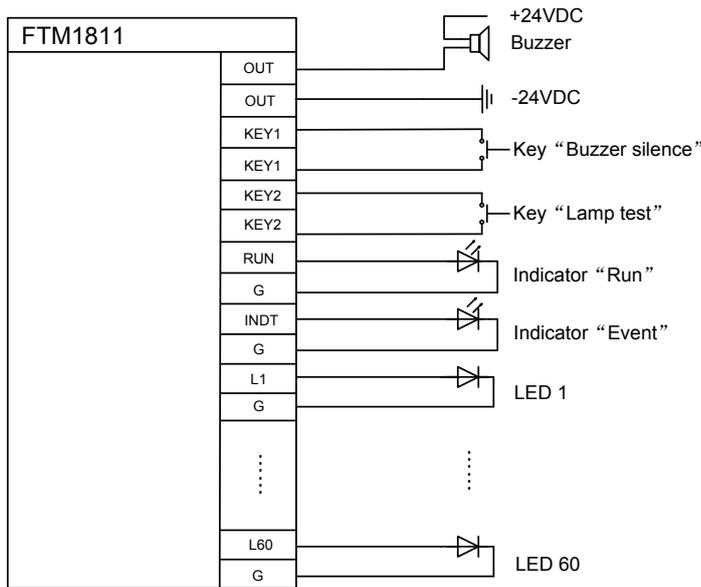

Fig.5 Connection diagram 1
- Connect the cables to the terminals (refer to Fig. 5./Fig.6)